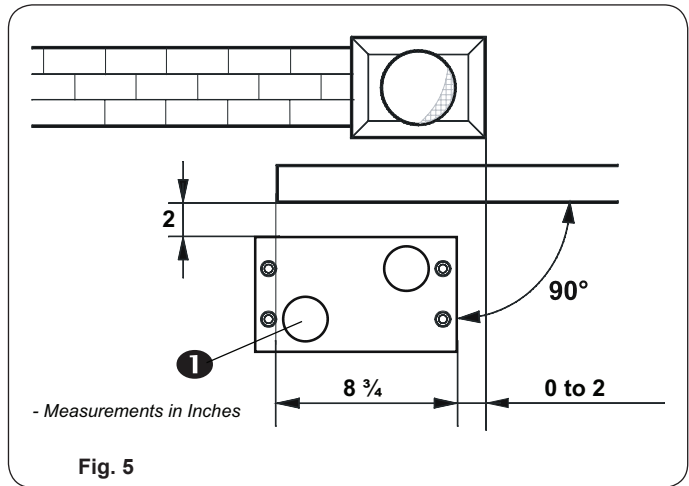
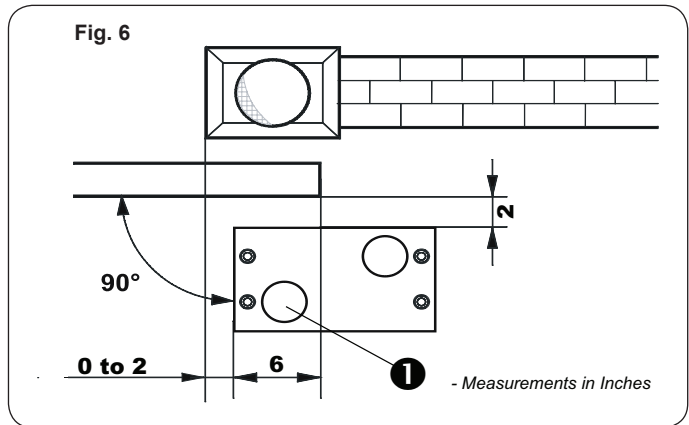

Fig. 5
Fig. 6
1. Assemble the foundation plate as shown in Fig 4. The foundation plate must be located as shown in Fig 5 (right closing) or Fig 6 (left closing) to ensure that the rack and pinion mesh correctly.
4. After the concrete is poured in the forms and before it has a chance to set, insert the foundation plate into the cement and position it flush with the top of the concrete and aligned with the top of the lower gate frame. Use the dimensions shown in Figs 5 or 6 to align your foundation plate. Allow the concrete to set for a minimum of two days before installing the operator.